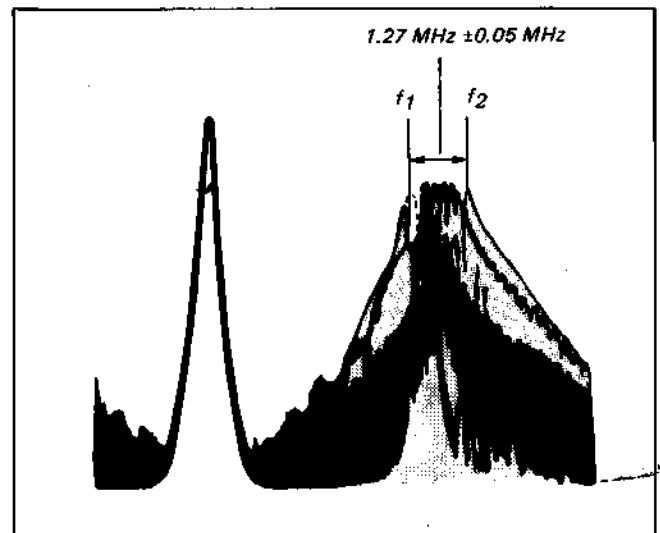

Fig. 5-35. FM modulator deviation adjustment
(1) Adjust the spacing between f_2 and f_1 to $1.27 \text{ MHz} \pm 0.05 \text{ MHz}$ with RV207. (See Fig. 5-35)
(2) Adjust according to step 5 and 6 (1) repeatedly so that Y signal carrier and deviation adjustments are both satisfied.